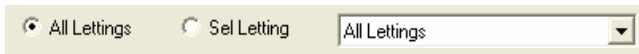

Figure 2.4c
All Lettings/Sel Letting This option allows you to load prices and calculate averages from a specific letting or range of lettings. There are three types of date ranges you can select: (1) All dates, (2) specific dates (i.e. starting and ending dates) as shown in Figure 2.4b or (3) pre-defined date ranges (i.e. last 6 months, last year, etc.) as shown in figure 2.4c.
By selecting All Lettings, then clicking on the down arrow, you can select from a pre-defined date range. Note that the first four options by month will begin with TODAY'S date when computing the amount of data to display so if the tabs database is not up to date and is more that 6 months behind, then the report will not return any data if you select the “Last 6 Months” option. Options: Last 6 Months, Last 12 Months, Last 24 Months, Last 36 Months, Current Year, Last Year. See Figure 2.4c.